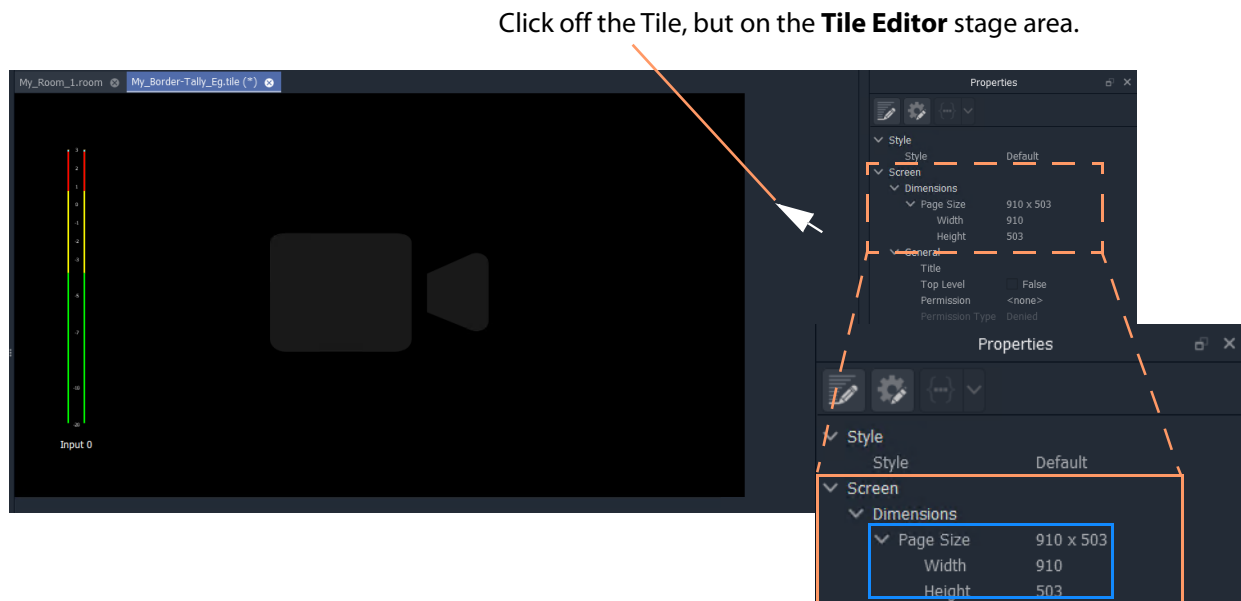

Fig. 15-25: Tile Size in Properties
- 3 Click off the Tile but in the **Tile Editor** stage area. See Figure 15-25.
In the example in Figure 15-25, the **Custom Tile**'s dimensions are: